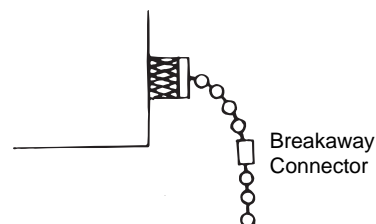

**Figure 19 - Assembling the blade bracket to the motor**
- C. To install the blades to the motor, the insert blade iron screws through the holes in the blade iron. Use your screwdriver to hold in place. Fasten the screw onto the motor, but do not tighten. Refer to Figure 19. Line up other hole on motor and fasten the second screw. Before tightening screws, make sure they are not cross-threaded in the mounting holes. Tighten both screws securely. Repeat for remaining blades.